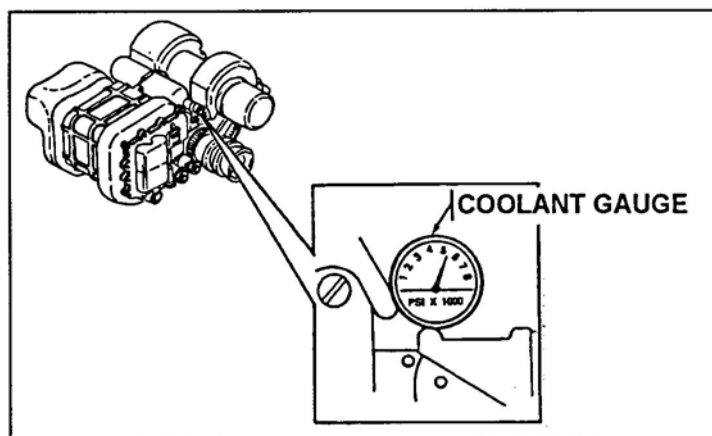

Figure 9. Coolant Pressure Gauge
- b. Observe the coolant pressure gauge. The gauge indicates from 1,000 pounds per square inch (PSI) to 8,000 PSI. If the gauge reads less than 2,500 PSI, replace the coolant cartridge (Figure 9).